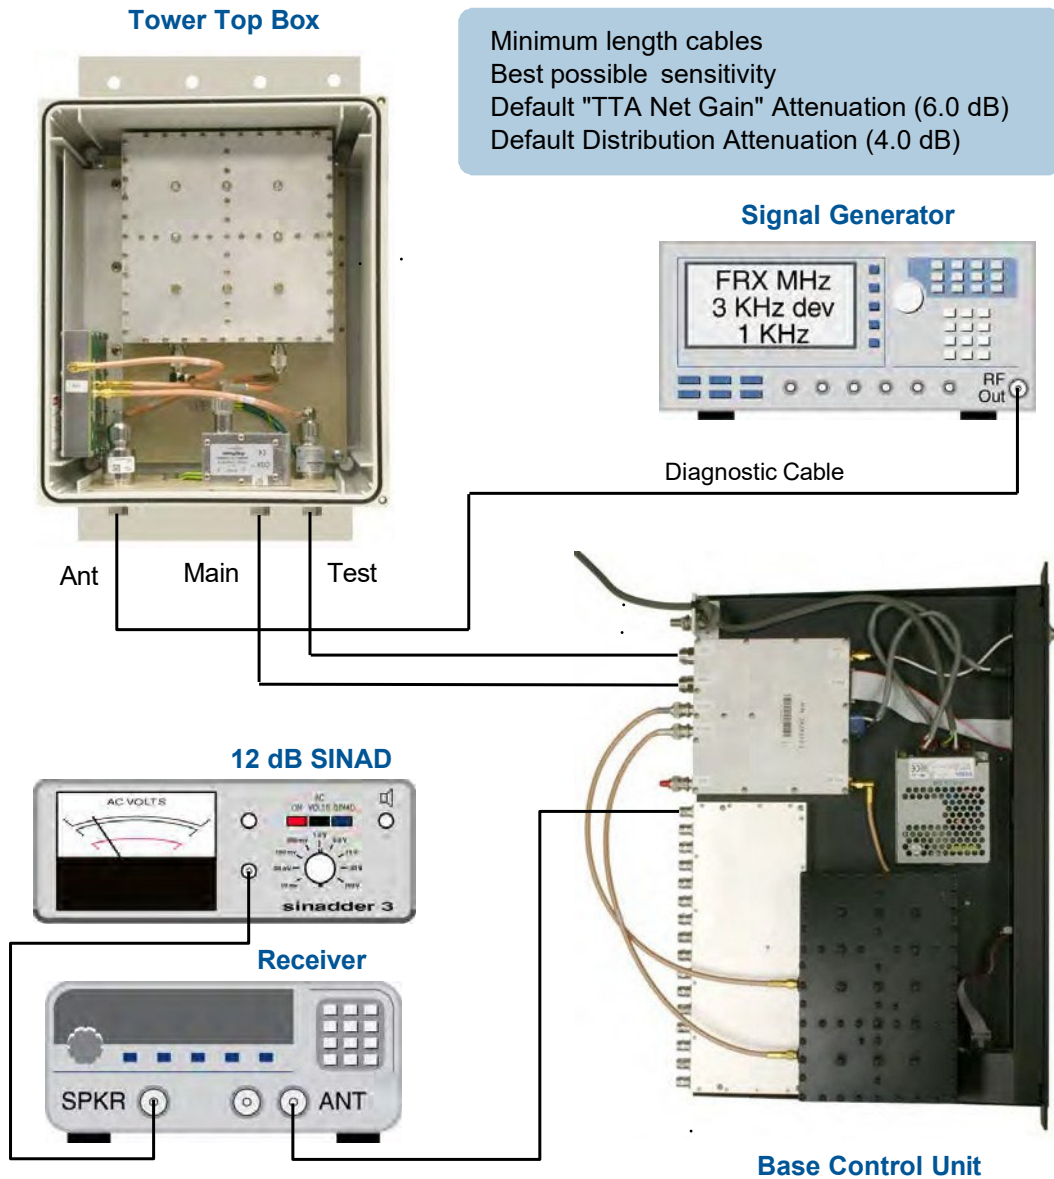

Figure 9: Test equipment interconnection for "bench testing" of system components.
- 2) To interconnect the equipment connect a cable between the main port on the tower box and the main port on the base unit. Also connect a cable from test port connector to the test port connector. **Figure 9** shows all of the equipment interconnections for bench testing the system. Be sure that the signal generator is setup for a 3 KHz deviation with a 1000 Hz tone (analog) or proper pattern for BER testing. Connect the SINAD/Bit Error Rate meter to a receiver and connect the receiver to one of the RF output ports on the back of the base unit.